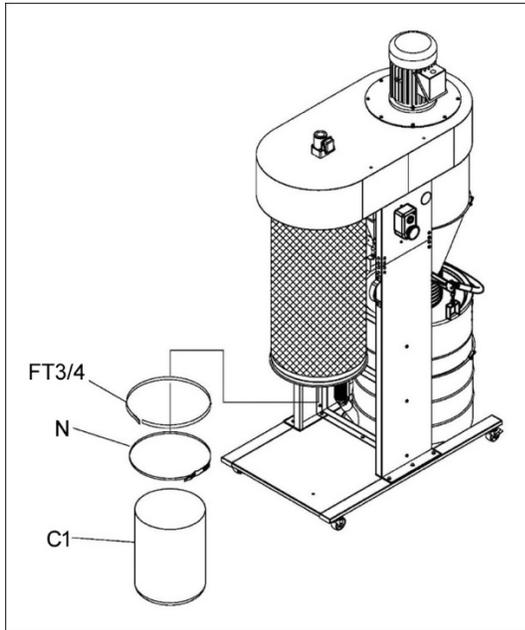

Figure 5-10
25. Apply 3/4Wx50L inch foam tape (FT3/4, Figure 5-10) to lower groove of canister filter, just above the lip.
26. Install canister collection bag (C1) beneath canister filter and secure with bag clamp (N).